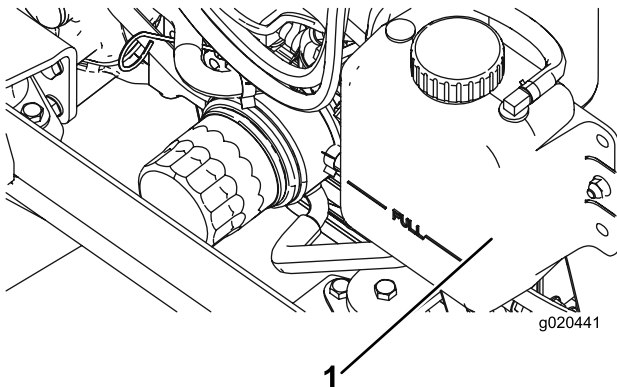

Figure 71
1. Carefully remove the radiator cap and expansion-tank cap (Figure 71).